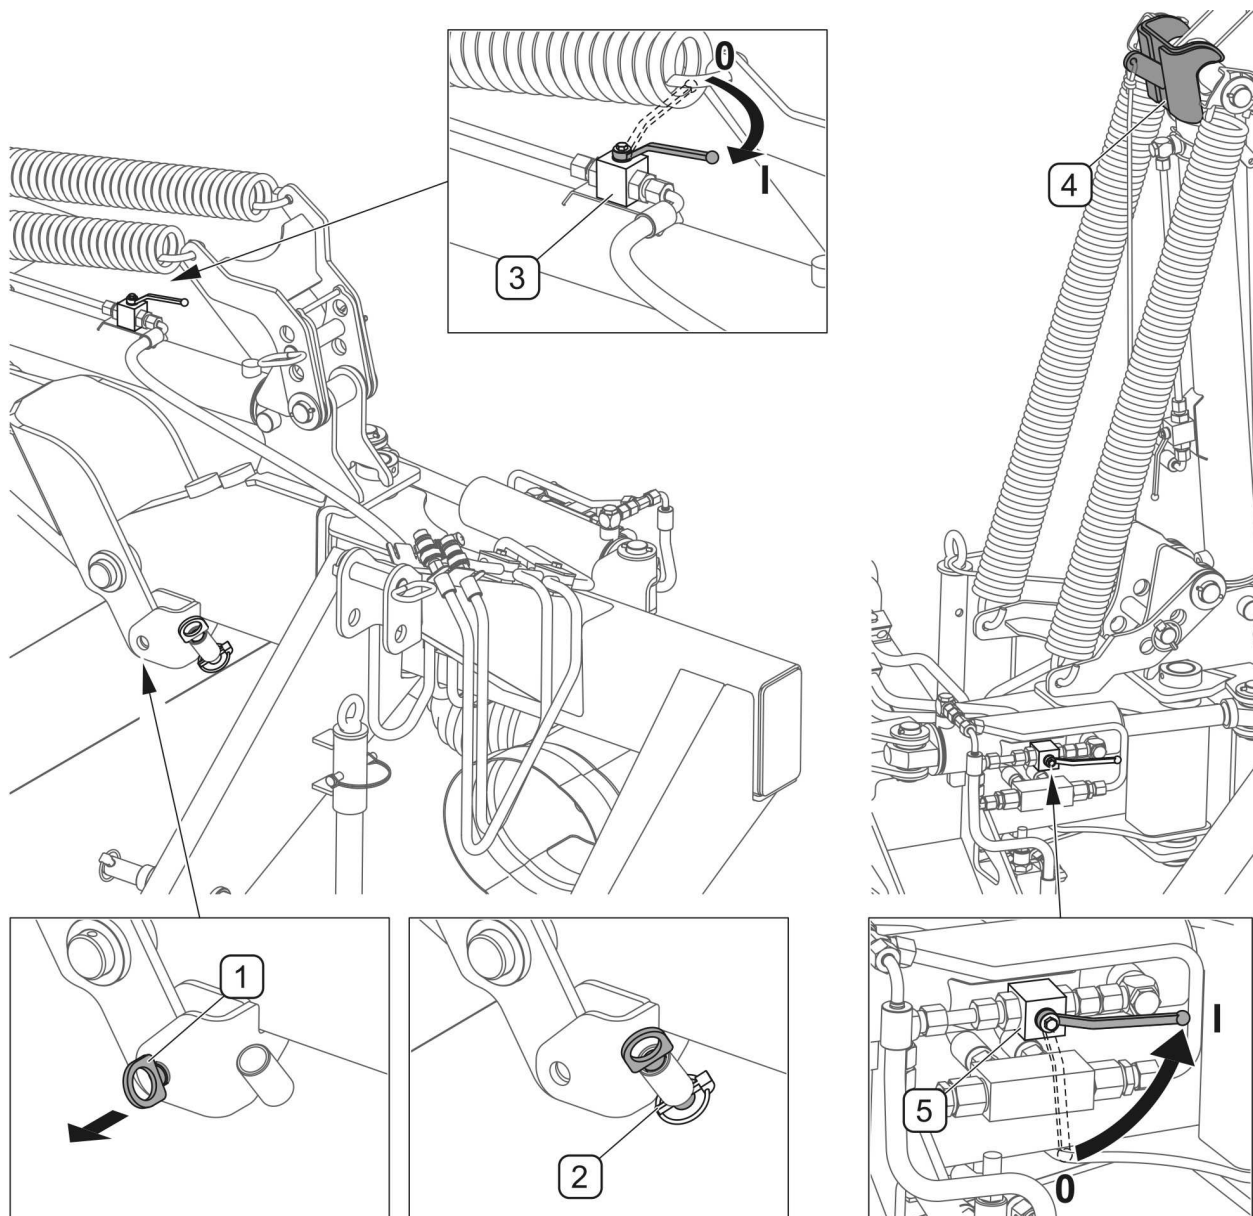

FIG. 4.4A **Setting transport position**
- Unblock lifting arm removing pin (1) from block (FIGURE 4.4A).
DANGER Unblock lifting arm removing pin (1) from block (FIGURE 4.4A).
- Release and remove arm interlocked pin (1) (FIG. 4.4A), place it in the sleeve and secure with a cotter pin (2),
- Set cylinder intelock valve (3) in open position „I”
- operating the hydraulic cylinder, lift the lifting arm together with cutting unit until cylinder lock (4) is engaged.
- close lifting cylinder valve (3).
When transporting the mower mounted on the tractor, all hydraulic cylinders valves shou be in "0" position – closed” (FIG. 4.4A)